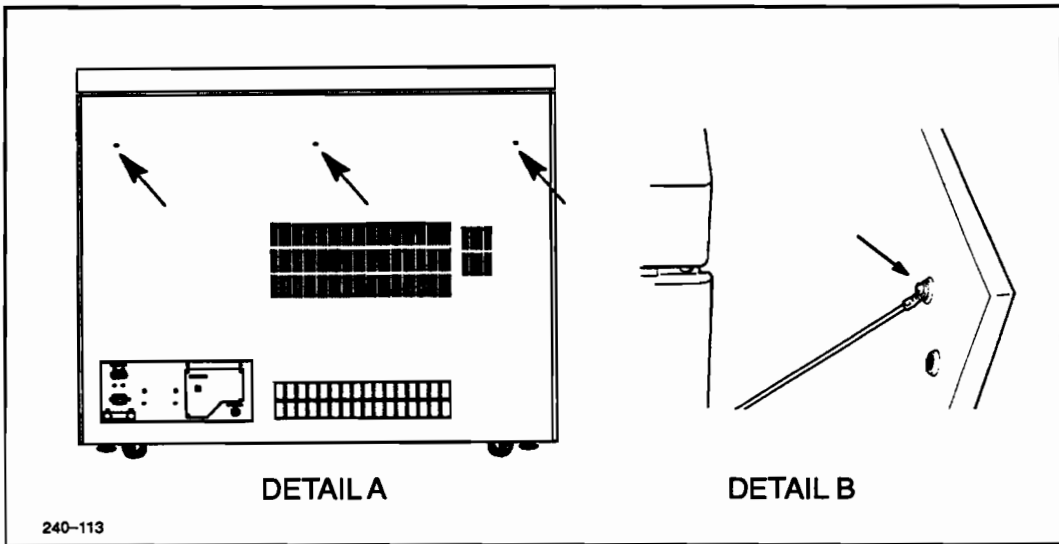

Figure 6-2. Rear Cover Removal
1. Switch the plotter OFF (O) and disconnect the ac power cord and interface cable.
2. Using a #2 Phillips screwdriver, remove the three rear cover mounting screws. Slowly pull the top of the cover outward and allow the cover to swing out until it stops. See Figure 6-2, Detail A.
3. Using a #2 Phillips screwdriver, remove the screw that connects the ground wire to the rear cover. See Figure 6-2, Detail B.